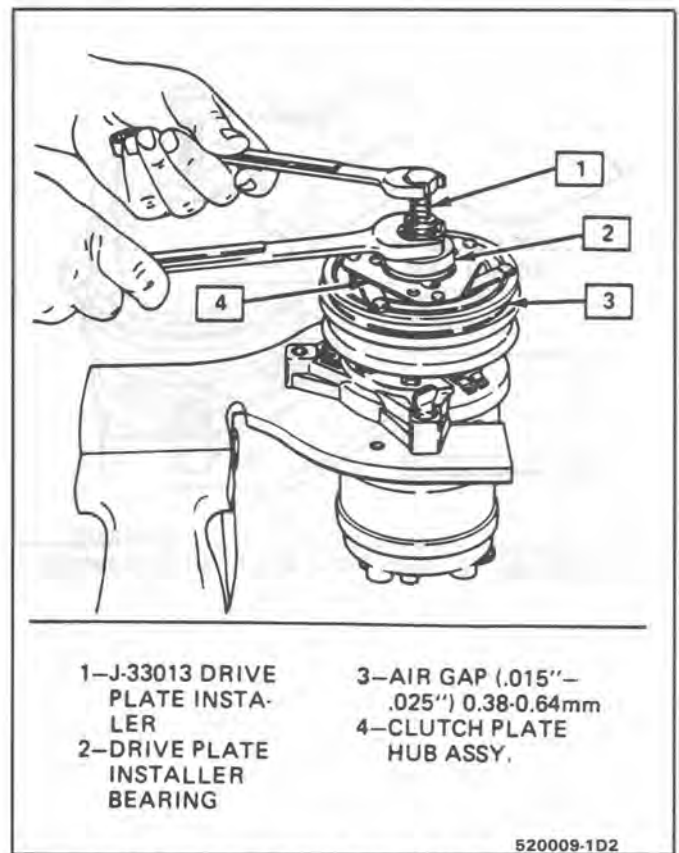

Fig. 9 Installing Clutch Plate & Hub Assembly
4. Remove the forcing tip from the J-33013-B remover/installer center screw and reverse the body direction on the center screw as shown in Fig. 9.
5. Install the clutch plate and hub installer J-33013 with bearing as shown in Fig. 9.